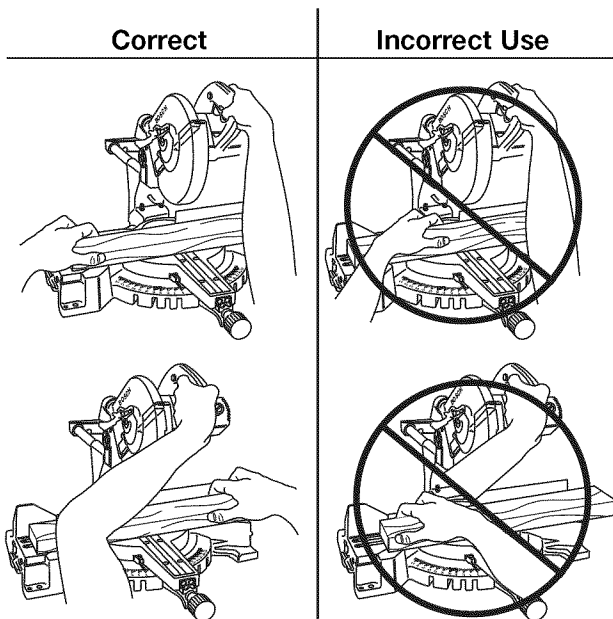

Figure 18. Hand Positions
⚠ WARNING Position your body and hands properly to make cutting easier and safer. Observe the following instructions (Figure 18).
- Hold workpiece (outside of the “No Hands” zone) firmly to the fence to prevent movement (Fig 18).